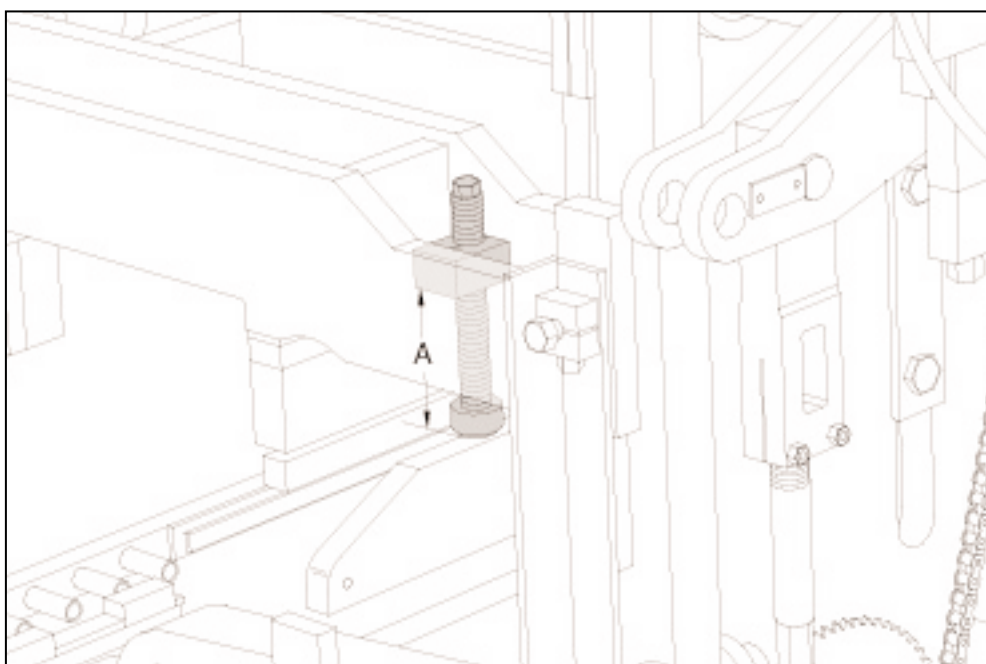

Figure 4.45 INSTALLING SHOCK ABSORBERS AND ADJUSTING.
4.3.7 Install the **445mm (17 1/2")** shock absorbers (**part #395992**). Adjust the shock absorbers to a dimension of **300mm [11.812"]** (represented by "A" in figure 4.45) from the bottom of the welded clamp block to the bottom of the rubber pad.